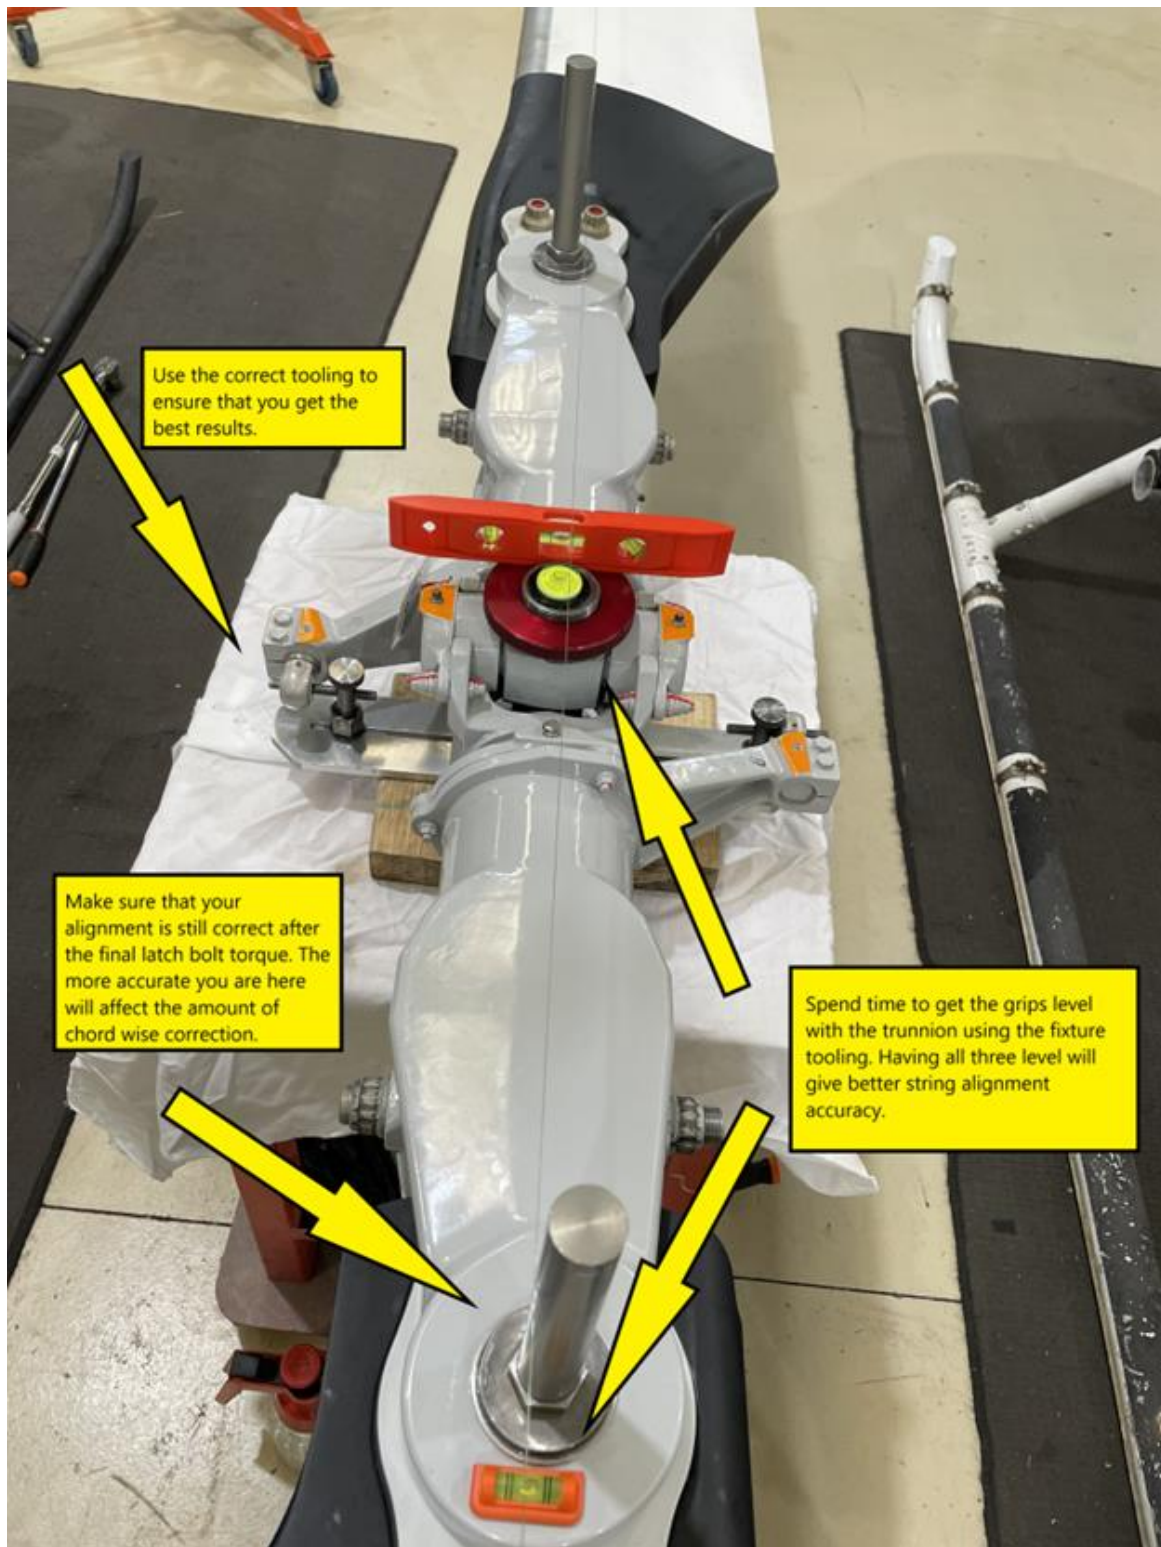

Figure 2: String Method of Hub Alignment
- i. Install hub on alignment stand with pitch horns fixed. See Figure 2